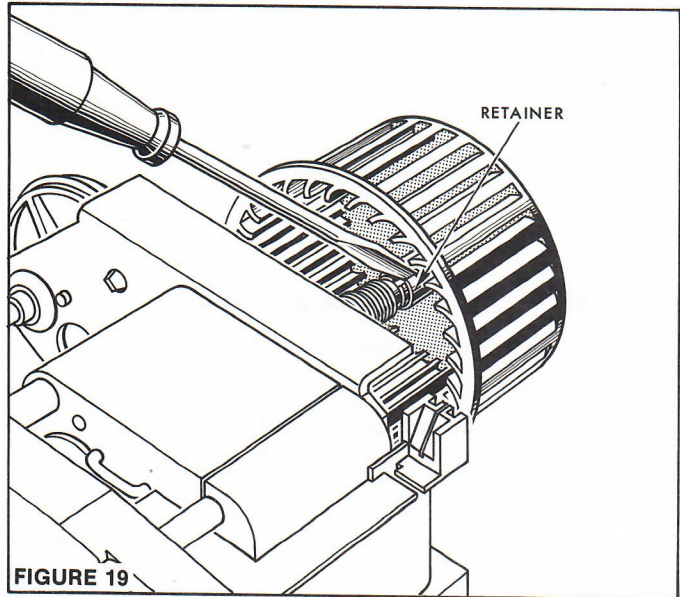

FIGURE 19
6. Insert a screwdriver in the RETAINER, separate the retainer, and slip the fan from the motor shaft, Figure 19.